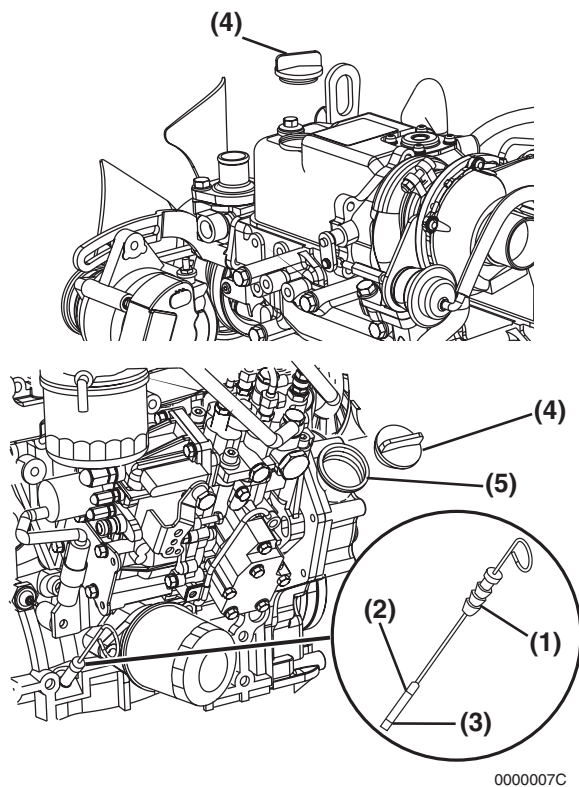

Figure 5-3
8. Add engine oil (**Figure 5-3, (5)**) as needed until the level is between the upper (**Figure 5-3, (2)**) and lower lines (**Figure 5-3, (3)**) shown on the dipstick (**Figure 5-3, (1)**).
9. Reinstall the oil filler cap (**Figure 5-3, (4)**). If any engine oil is spilled, wipe it away with a clean cloth.